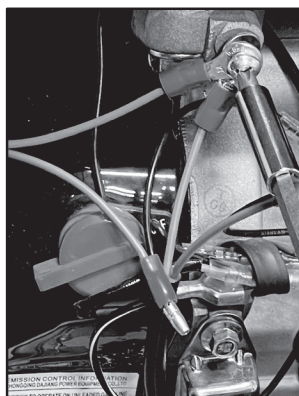
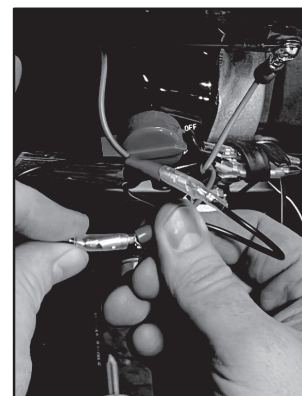

Fig. 43
Fig. 44
Step 27: Wire the Emergency Stop Button. The Emergency Stop button is wired to the engine by connecting the blue wire to the grounding terminal (Fig. 43) and attaching the bullet connector on the brown wire to the black bullet terminal that is connected to the Wheel Door interlock switch (Fig. 44). The black wire bullet terminal is not connected to anything and is there to allow another switch to be added if necessary.